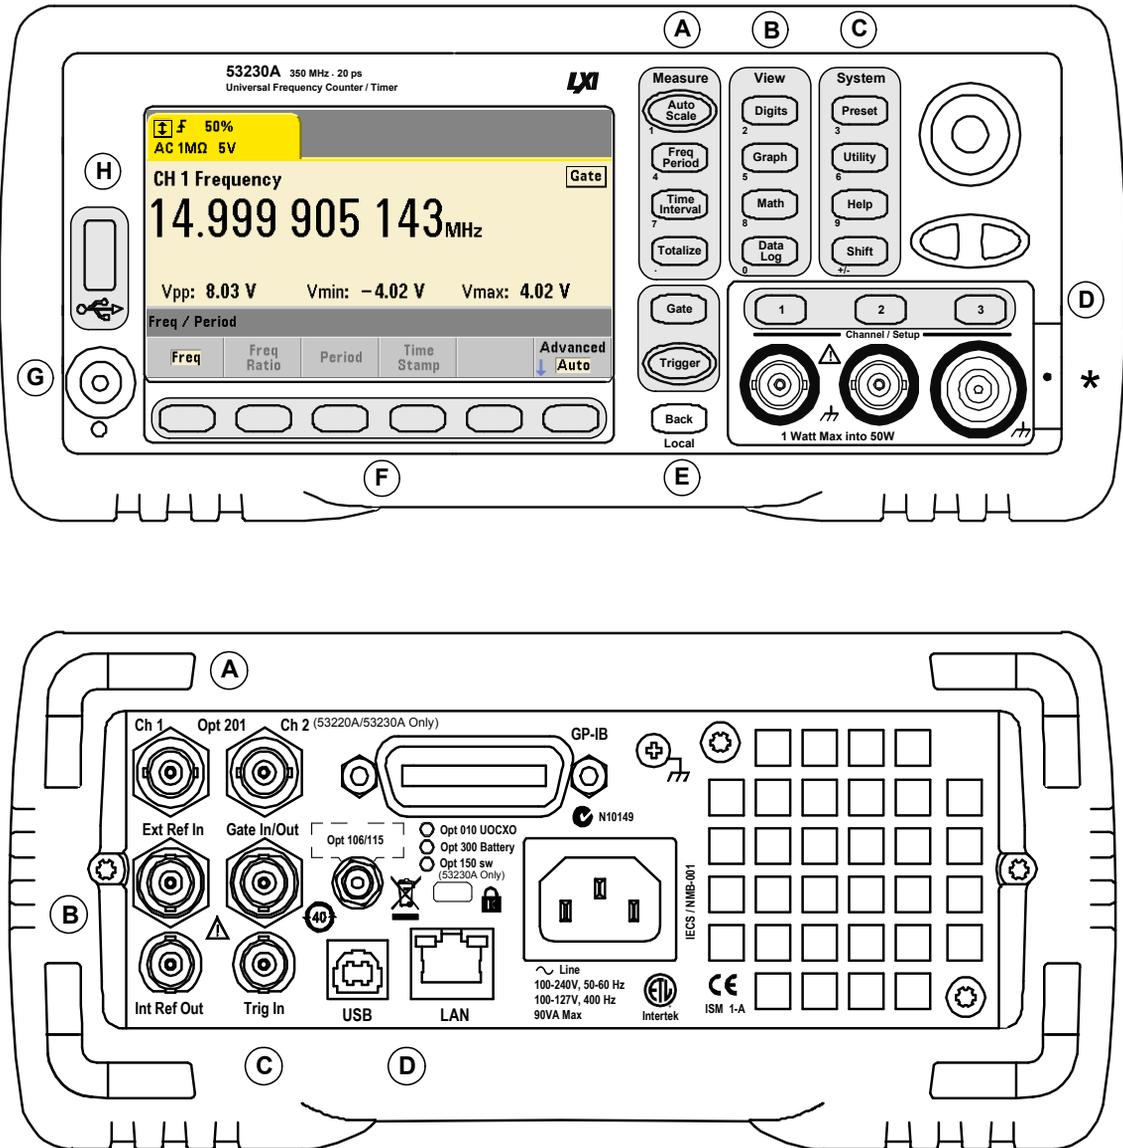

Figure 1-1. The 53220A/53230A Universal Frequency Counter/Timer.
Figure 1-1 shows the front and rear panels of the Keysight 53230A 350 MHz Universal Frequency Counter/Timer. The 53220A and the 53230A are dimensionally identical and available with the same product options - with the exception of Pulse Measurement Firmware Option 150 available with the 53230A only.
D. Channel Keys - select the input channel and displays the soft key menu used to configure the input signal path. Note that Figure 1-1 includes Channel 3 Option 106 / 115. Signal path configuration is covered in **Chapter 4**.
The 53230A rear panel shown in Figure 1-1 includes product Option 201 (parallel rear panel inputs) and GPIB interface. The rear panel terminals are briefly described below.